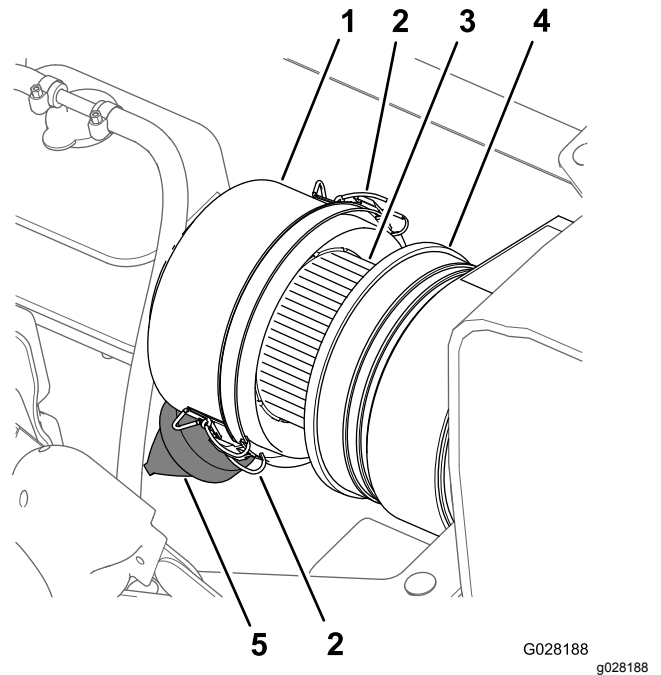
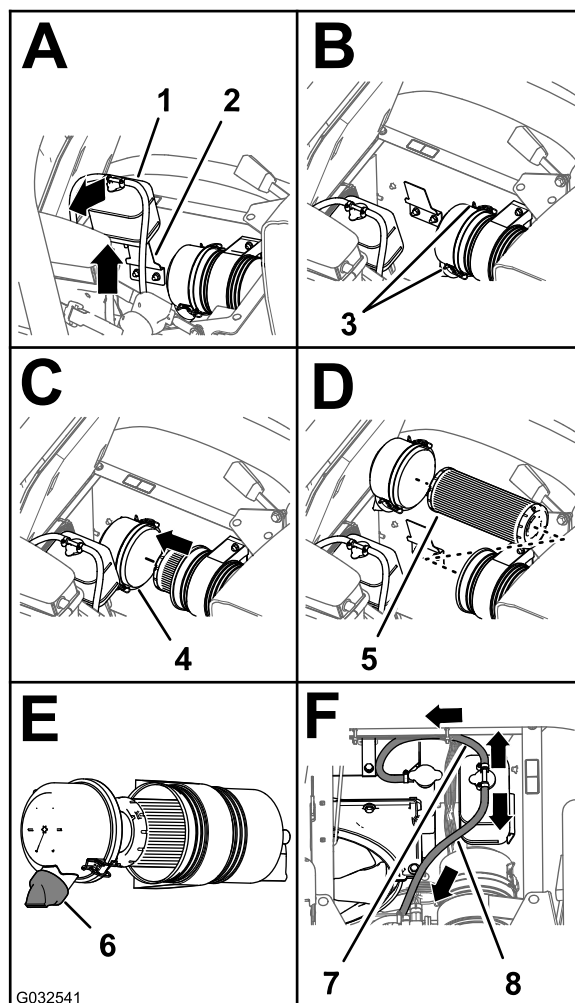

Figure 68
Figure 69
3. Clean the dust cap and air-cleaner body (Figure 68).
4. Check the air-cleaner body for damage that could cause an air leak (Figure 68).
5. Squeeze the dust valve to clear it of dirt, dust, and debris (Figure 68).
7. Check the air-filter element for excessive accumulation of dust, dirt, and debris (Figure 68).
8. Install the dust cap onto the air-cleaner body and secure the cap with the 2 latches (Figure 68).
4. Loosen the 2 latches that secure the dust cap to the air-cleaner body (Figure 69).
6. Clean the inside of the dust cap, air-cleaner body, and dust valve with a damp rag (Figure 68 and Figure 69).
7. Insert the air-filter element into the air-cleaner body (Figure 69).
2. Clean the dust cap and air-cleaner body (Figure 68).
3. Lift the coolant-overflow tank up and off the tank-support bracket (Figure 69).
8. Install the cover onto the air-cleaner body and secure the cover with the 2 latches (Figure 69).
Note: Ensure that the dust valve is aligned between the 5 to 7 o'clock position when viewed from the end (Figure 69).
9. Align the coolant-overflow tank to the tank-support bracket and seat the tank firmly (Figure 69).
Important: Ensure that the pressure-relief hose is routed forward and down, and the tank-vent hose is routed rearward as shown in Figure 69.